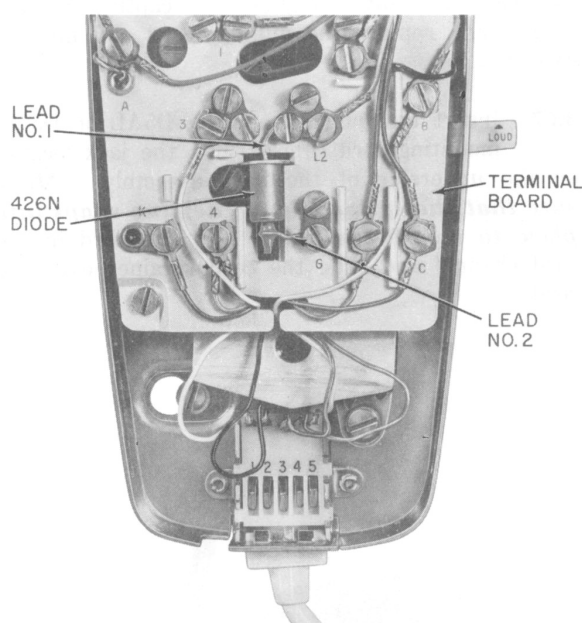

Fig. 10—426N Diode Installed
**3.14** A 426N diode must be installed in either the AC1 or AD1 base assembly when connecting for 4-party full selective or 8-party semiselective ringing. The two leads from the diode are designated No. 1 and No 2. Lead No. 1 extends from the flanged (gold) base of the diode; lead No. 2 extends from the housing tip of the diode. Place the diode in the opening provided in the terminal board (Fig. 10). Dress the leads to the appropriate terminal board terminals, refer to Table E for connections.